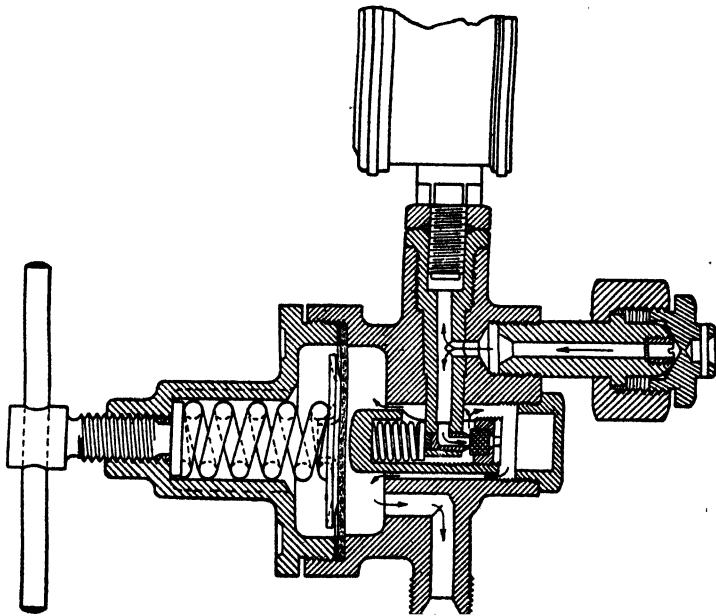

Fig. 17. Section of Pressure Regulator
**Regulators.** There are various types of regulators on the market today, but the most successful ones are very similar in design and construction. The principal parts of a constant-pressure regulator, Fig. 17, consist of the body proper, regulator valve, diaphragm, pressure-adjusting spring, safety-relief valve, and gages.